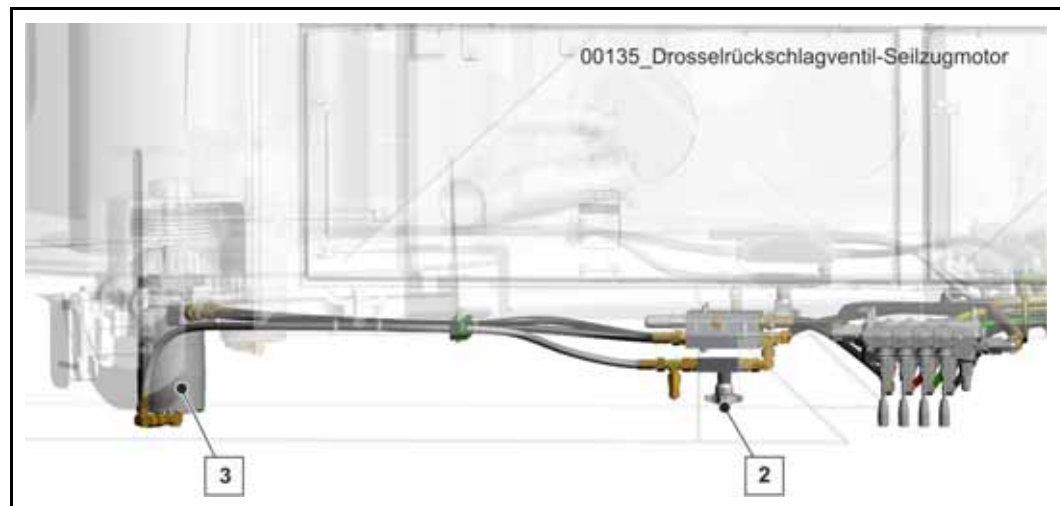

Fig. 332 Wire rope hoist motor (3) with one-way restrictor (2)
- Close the one-way restrictor (2) (**Fig. 332**)
- Release the one-way restrictor (2) (**Fig. 332**) (brake closes and releases again)